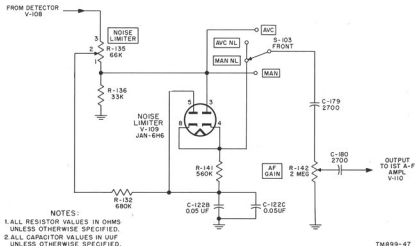

Figure 20. Noise-limiter stage, simplified schematic diagram.
45. Noise-limiter Stage V-109 (fig. 20)
b. A noise limiter, V-109, is provided to permit optimum reception. It is placed in the circuit when S-103 is in the MAN NL or AVC NL position. Since the input signal is negative with respect to ground, the plate (pin 3) will normally be positive with respect to the cathode (pin 4) (fig. 20). The cathode connection is through resistors R-132 and R-141. As a result of this polarity relationship, this section of V-109 conducts and forms a path for the audio signal through the switch, capacitor C-179, and potentiometer R-142. Since noise is generally in the form of sharp peaks of high amplitude and very short duration, fairly effective noise limitation may be obtained by clipping these peaks. Since the waveshape of modulation peaks are similar, noise limiting will also result in some